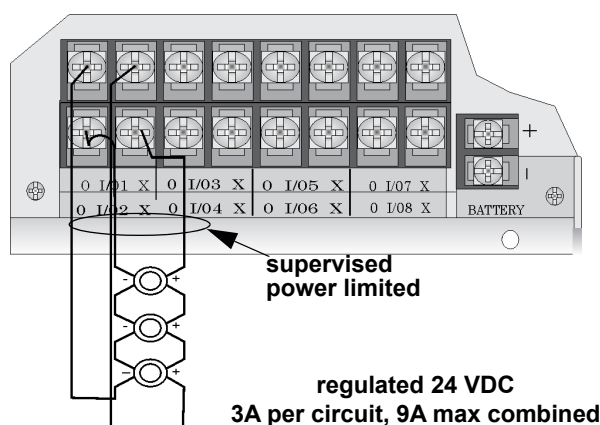

Figure 4.48 Class A Notification Appliance Circuit Configuration
1. Wire the Class A notification appliances as shown in Figure 4.48.
NOTE: In programming any point that uses multiple Flexput circuits, the lowest Flexput circuit number is used to refer to the circuit pair. For example, Figure 4.48 uses both Flexput circuit 1 and 2, so in programming it would be referred to as point 1.